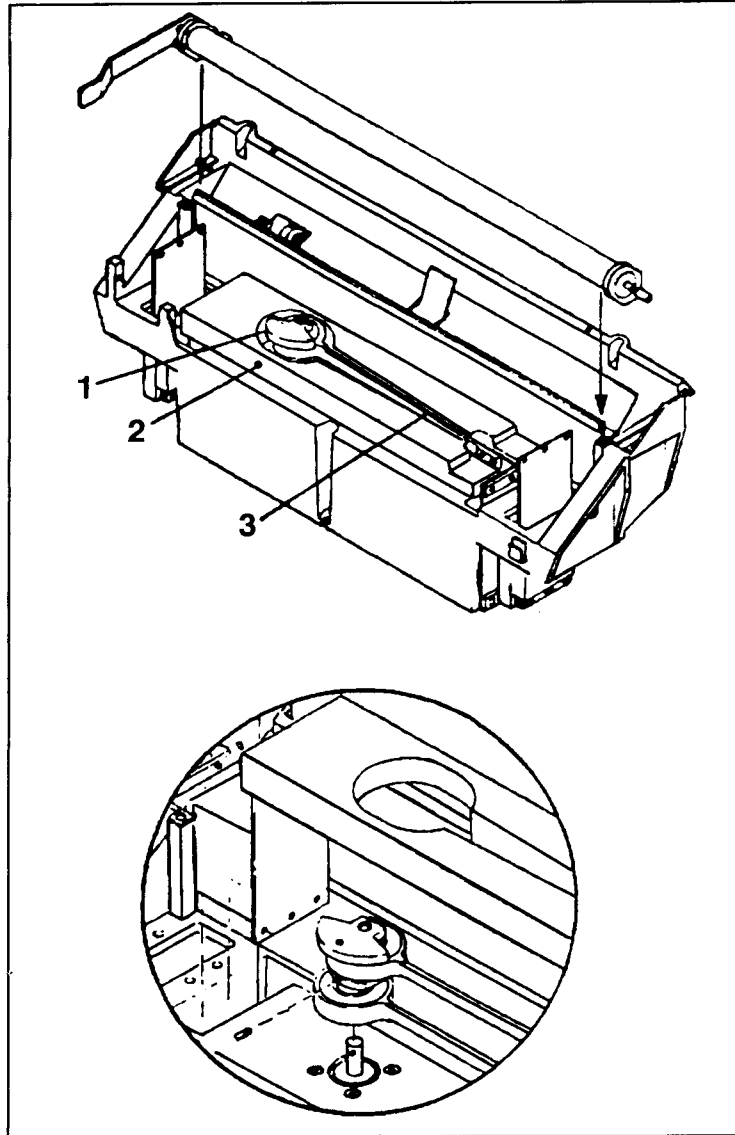

Figure 6-23. Crank Assembly Set Screw
- f. Rotate the crank assembly until the set screw securing the crank assembly to the drive motor is accessible from the opening (access hole) in the print mechanism (see Figure 6-23, item 2). Using a 2.5 mm allen wrench, loosen the set screw.
- b. Rotate the drive motor shaft so the set screw hole in the shaft is approximately in line with the access hole in the print mechanism (see Figure 6-23).